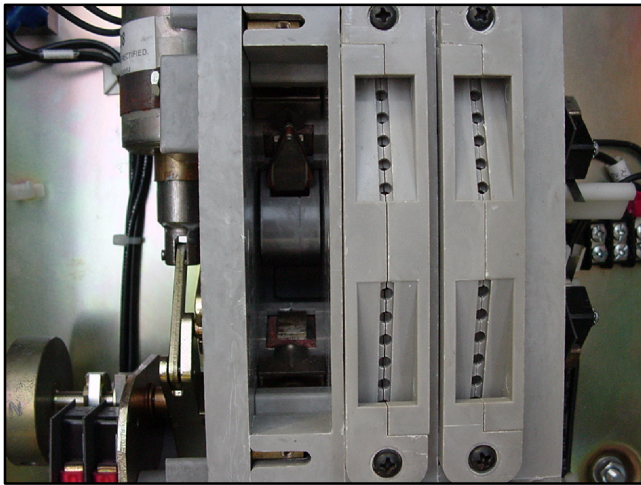

Figure 7-8 Movable Contacts (arc chute removed)
7. Inspect the movable contact for damage. See Figure 7-8. If damage is found, order a replacement power panel and continue to Step 8.